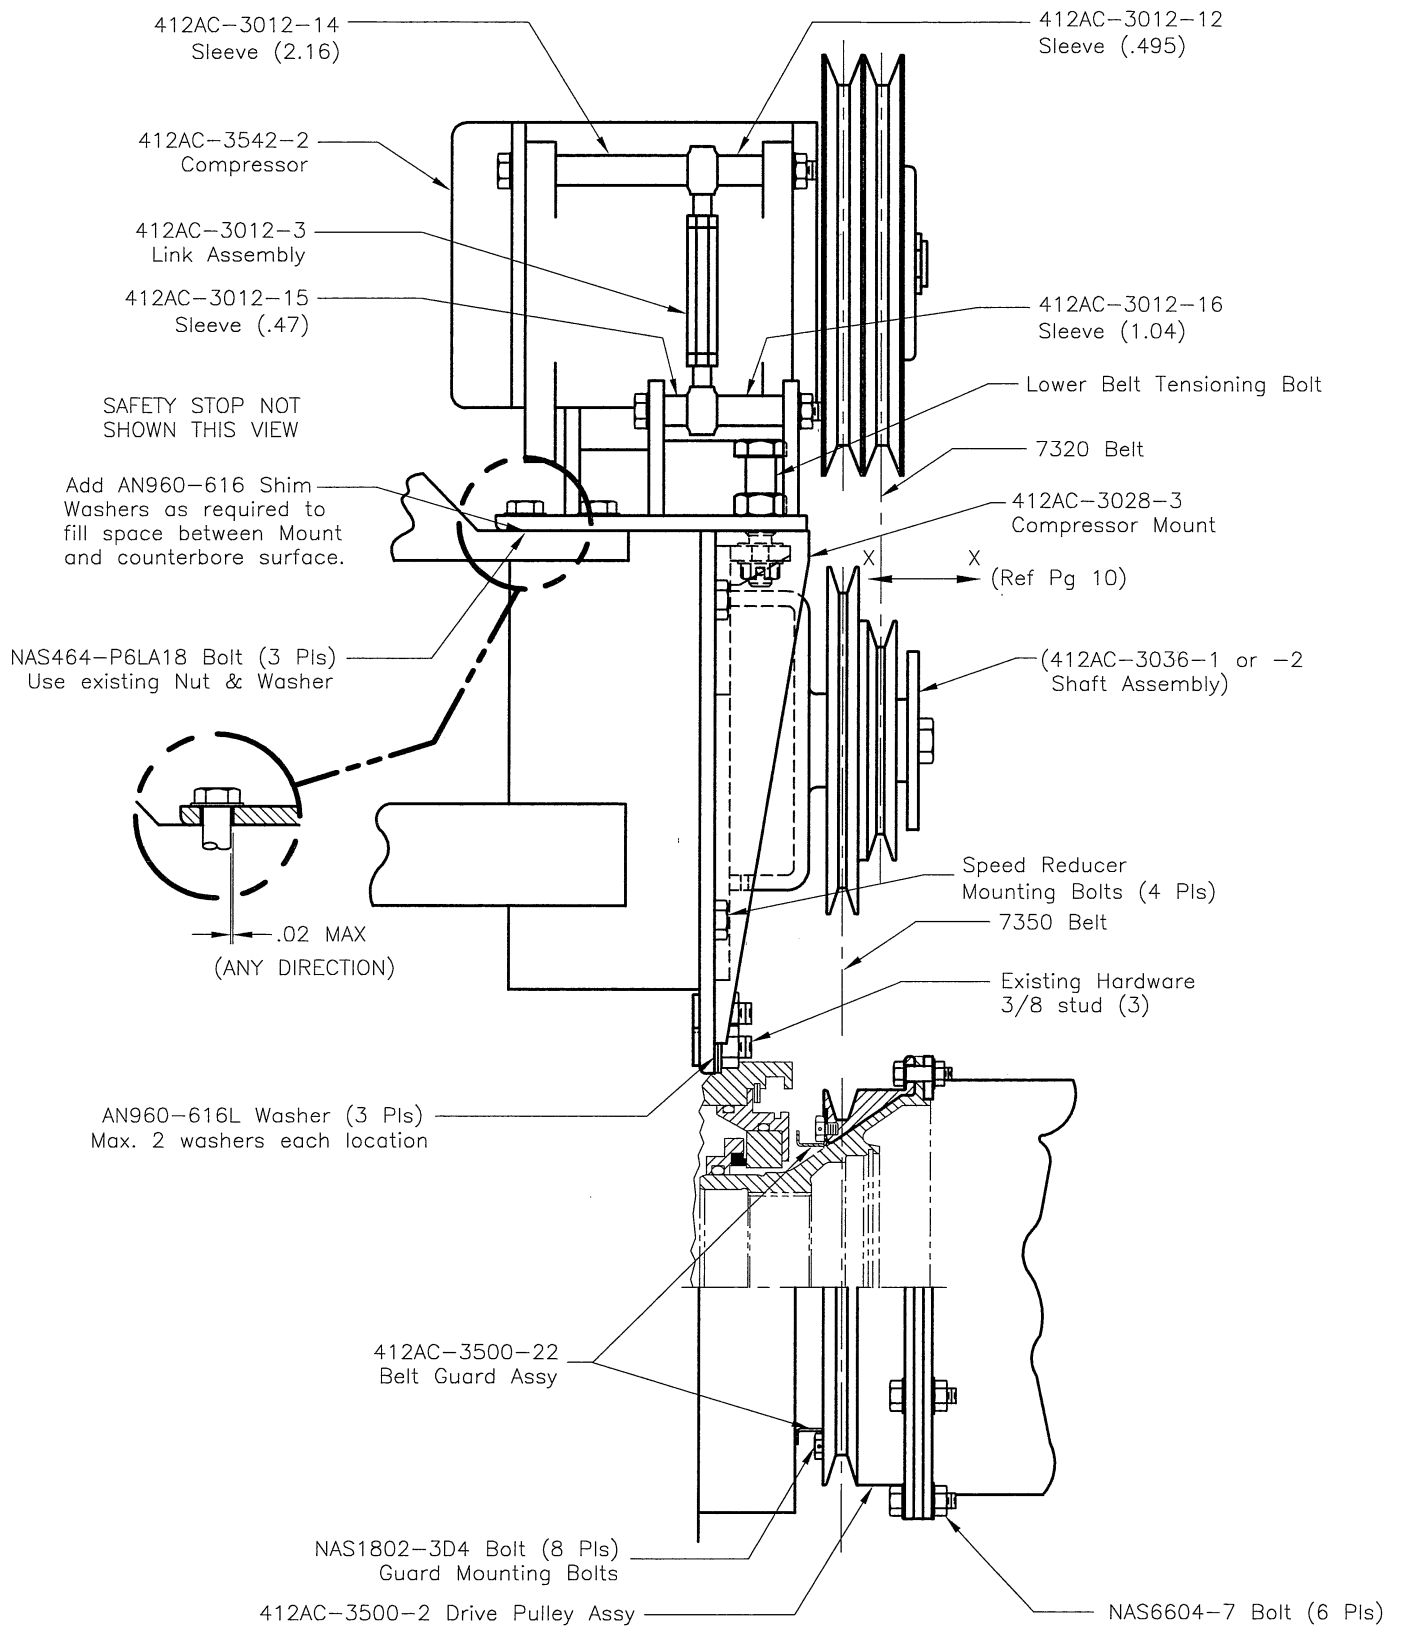

Figure 1, 412EP & 412HP Compressor Installations
4. Remove the cotter pin and the AN320-6 Nut at the bottom of the 412AC-3016-16 Bolt. Remove the AN960-616 Washers located between the Speed Reducer Assy and the bottom of the Compressor Mount (see figure 1 or 2).
XIII Installation Of Belt Guard Ring (Figures 1 & 2)
Inspection is to be accomplished by application of a 2 to 3 lb. (.9 to 1.4 Kg) force to the edge of the pulley as shown by figure 1. Any free-play of the pulley/bearing assembly in the direction X-X is cause for immediate replacement of the bearing.